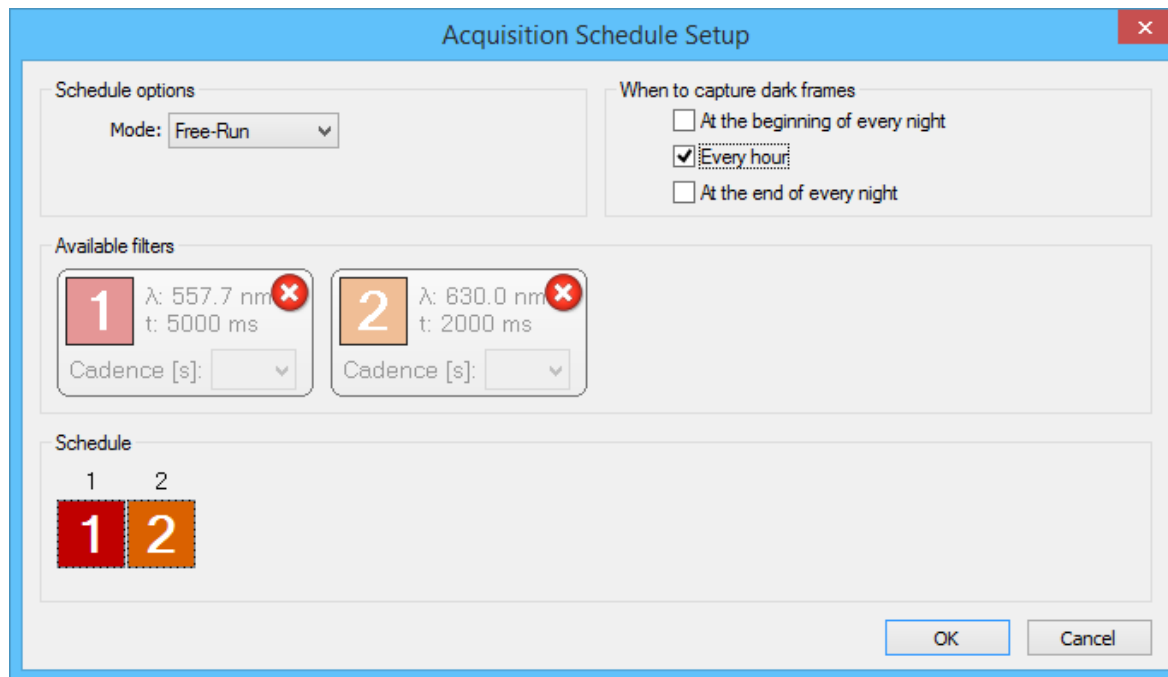

Figure 62: Completed Acquisition Schedule Dialog
5. The dialog will not look like the one shown in Figure 62.